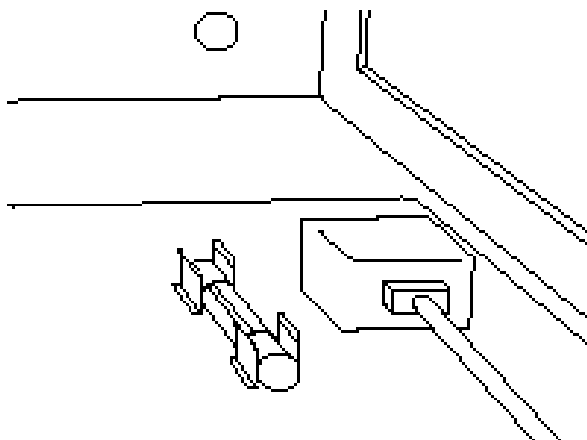

Figure 5 - Fuse location.
1. Check that the AC Detachable Power Cord is plugged into the Pre 1L Detachable Power Cord Socket (I) and is connected to a live source of AC power. For instance, if using a power bar, check that the bar is turned on.
- A "slow-blo" fuse, with a rating of 0.5 Amp/250 V (0.25 Amp/250 V for European and Asian versions), is installed on the circuit board under the soft plastic cover (See figure 5).
- The AC power fuse is intact and has not blown. If the fuse has blown, the thin metal conductor will have melted and the glass may appear "smoked". If the fuse has blown, replace with a fuse of the same rating (0.5 Amp/250V fast-blo for 100 to 120 volt countries and .25 Amp/250V fast-blo for 220 to 240 volt countries). (See Figure 5).